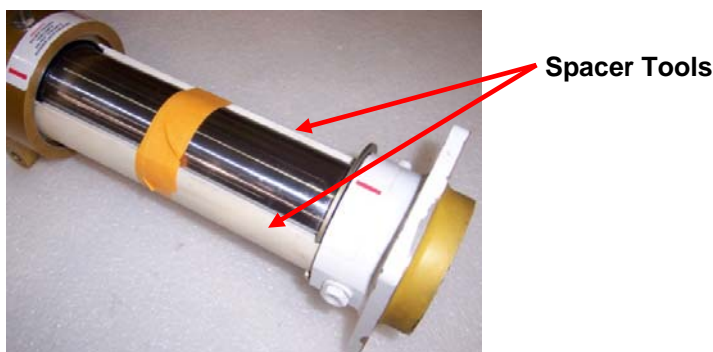

Figure 5-10: Upper Gland Alignment and Installation
9. Use masking tape as shown in **Figure 5-10** to attach the spacer tool pieces, supplied with the nose strut resealing tool kit, between the fork attach collar and lower gland.